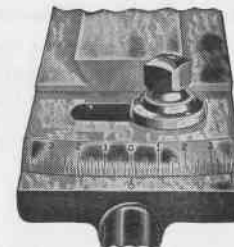
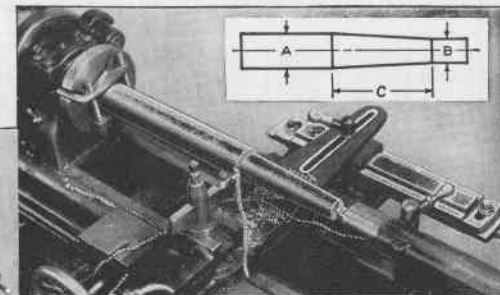
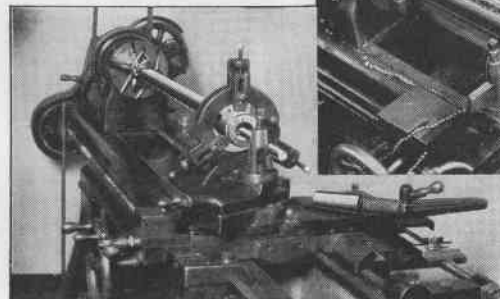

Fig. 182A. Graduations in Inches per Foot on Swivel Bar
Fig. 183. Taper Turning with the Taper Attachment
Fig. 184. Boring a Taper with the Taper Attachment
To calculate the taper in inches per foot, subtract the diameter in inches at the small end of taper (B, Fig. 183) from the diameter in inches at the large end of the taper (A); divide the result by the length of tapered portion (C) in inches, and multiply by 12. The answer is the taper in inches per foot and indicates the graduation on the "taper per foot" end of the swivel bar which should be set in line with the witness mark in order to machine the desired taper. See Fig. 182A.
Turning an outside taper is shown in Fig. 183. Boring an inside taper with the aid of a center rest is shown in Fig. 184. See page 92.